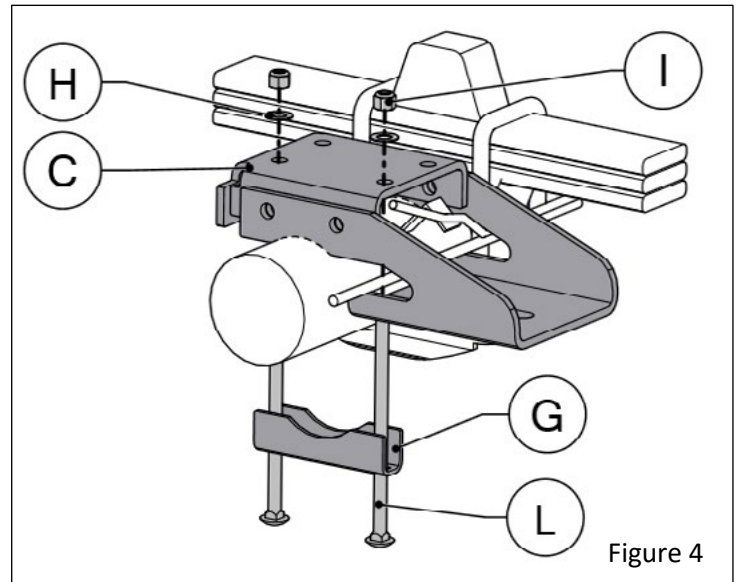
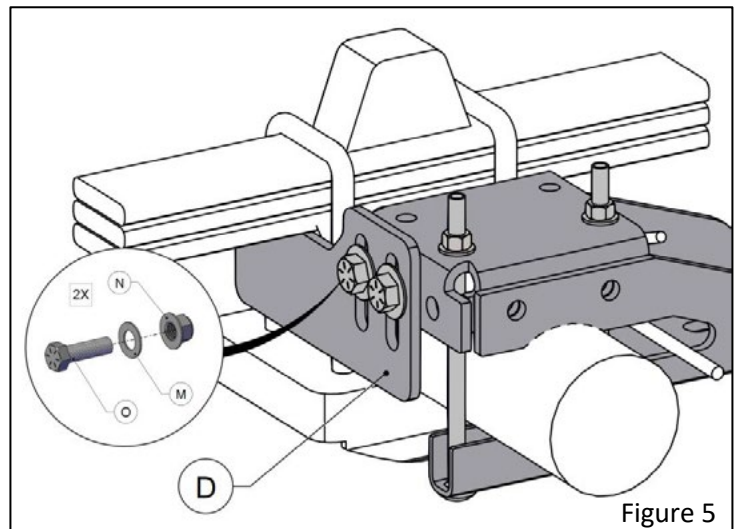

Figure 4
Figure 5
- Place the lower bracket (C) onto the axle as shown in Figure 4.
- Attach the lower bracket assembly to the vehicle using the axle strap (G), carriage bolts (L), and 3/8" hardware (C/I).
- Use the supplied 1/2" hardware to attach the leaf pack support bracket (D) to the lower bracket (C). Refer to Figure 5
- Push the leaf pack support bracket (D) up so that it contacts the underside of the leaf pack and prevents the lower bracket from rotating.
**CAUTION:** You must torque the hardware in Figure 5 to the values specified above. Failure to do so will result in failure of the air suspension kit, and/or damage to your brake lines.
**NOTE:** Use the supplied split loom (X) and zip ties (T) to secure brake lines away from the lower bracket, and to prevent chafing.